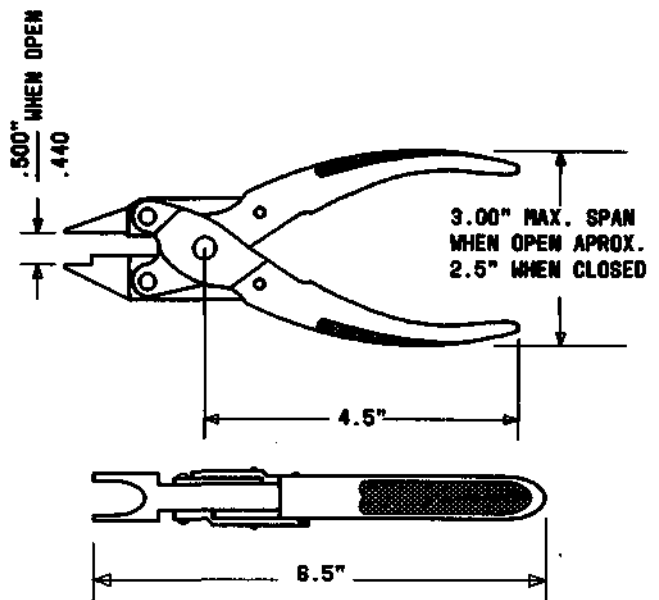

Fig. 31—KS-22386, L1, Cap Inserter Tool
2.33 KS-22386, L1: The KS-22386, L1, cap inserter tool (Fig. 31) is used to install shielding caps on right angle, miniature coaxial connectors similar to KS-20864, L3 and L4.